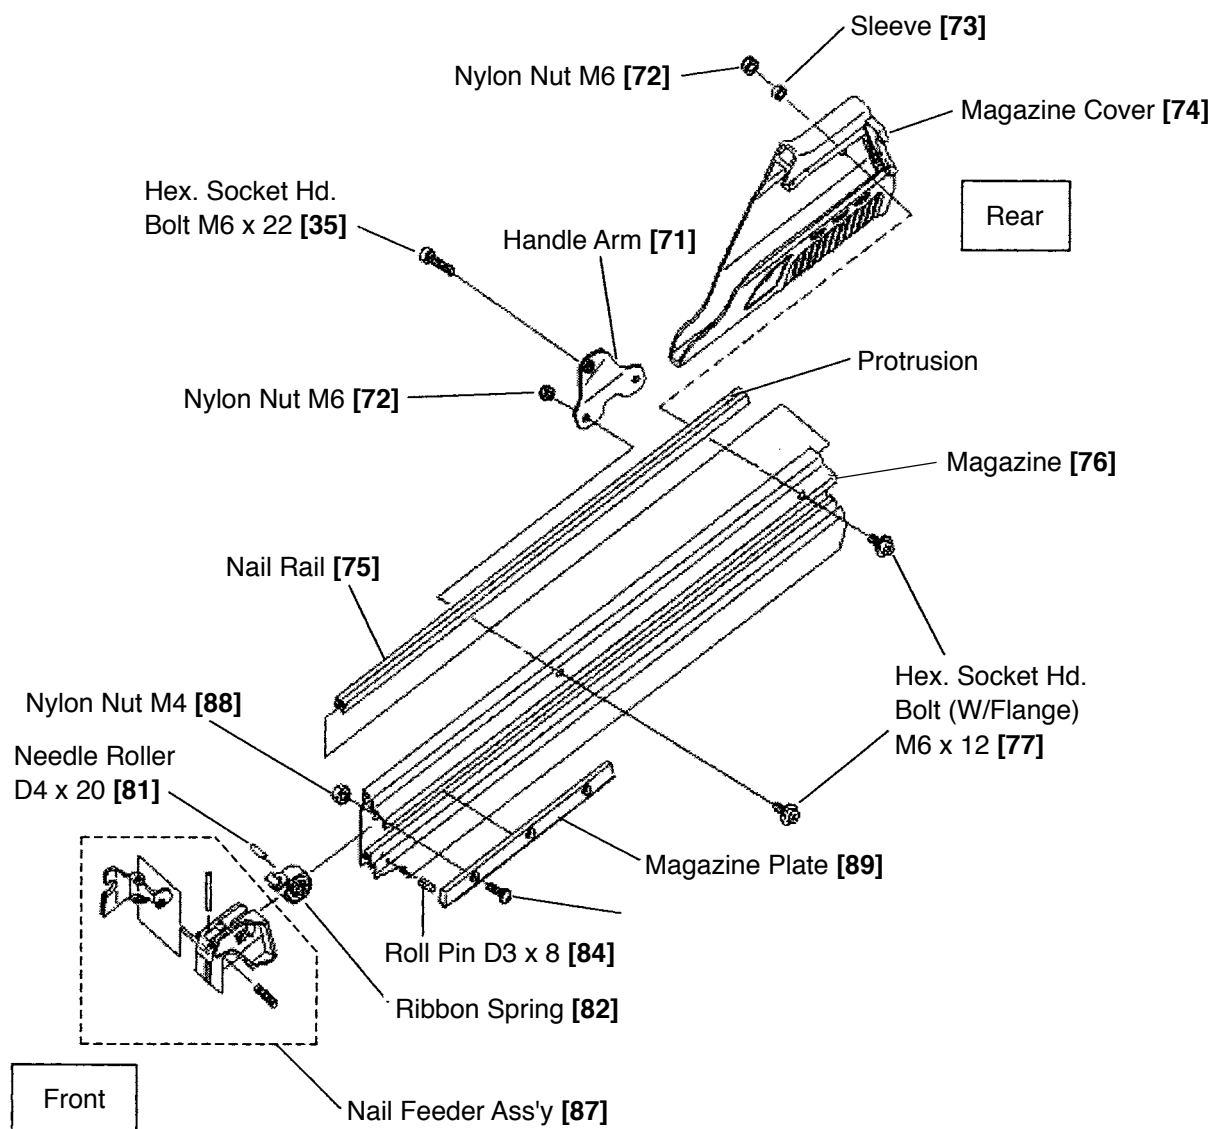

Fig. 24
(2) Nail Feeders (A) [78], (B) [80] and the related parts (See Fig. 24.)